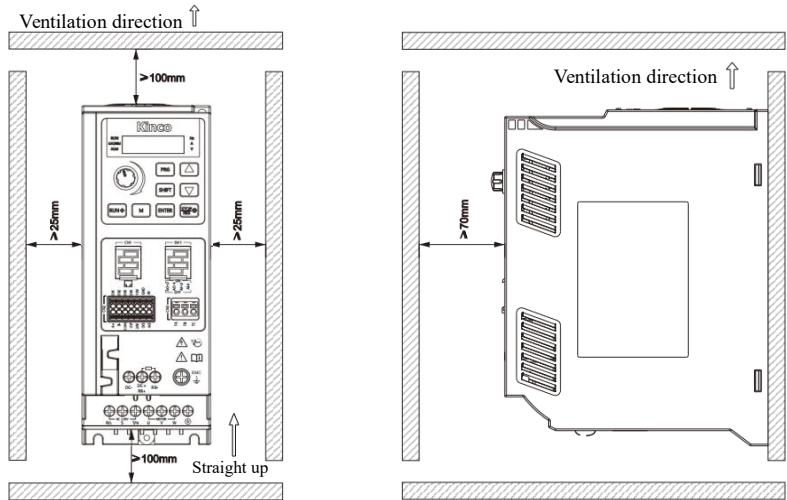

Figure 2-5 Mounting direction
- Comply with distances and clearances shown in figure 2-5.